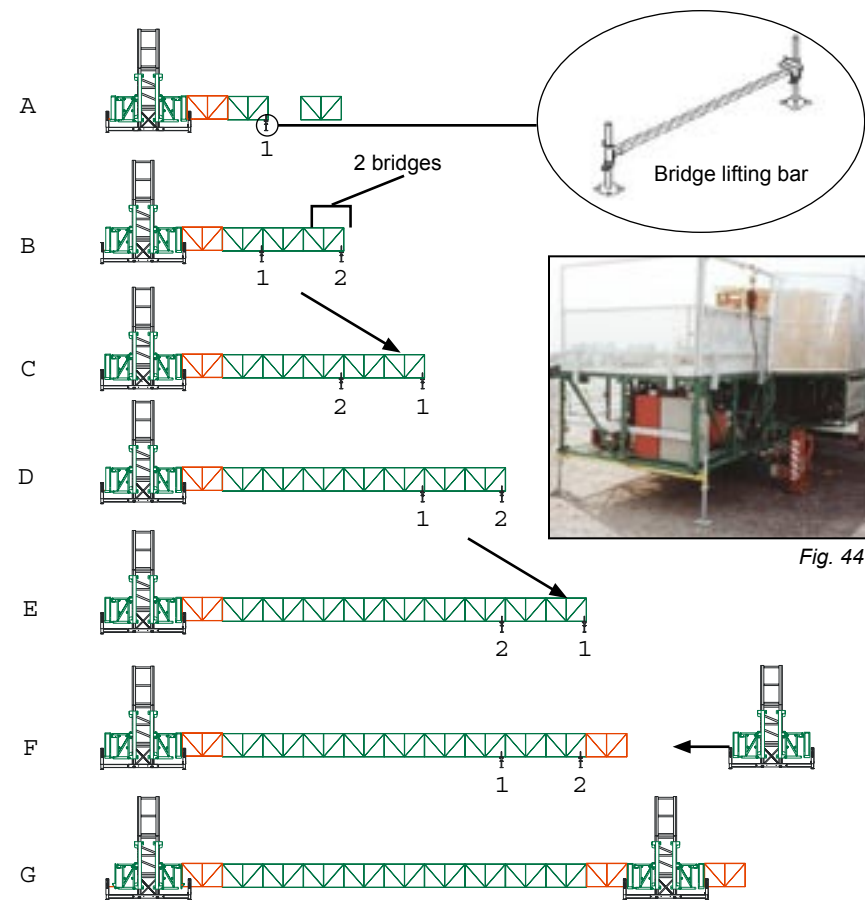

Fig. 45
The installation of a bearing bridge setup will require up to two bridge lifting bars (fig. 45, p. 25).
- 5- After two additional bridges have been installed, slide a second bridge lifting bar under the last bridge installed, as shown in step "G" of fig. 45. Install the bridge lifting bars alternately every two bridges added.
- 7- Make sure an intermediate frame is installed properly on the second motorized unit ("B" side in fig. 41). Connect the second motorized unit on the "B" side to the last bridge installed ("A" side of the setup in fig. 41) as illustrated in step "G" of fig. 45. See the *Bridges* section on p. 21 for more information.